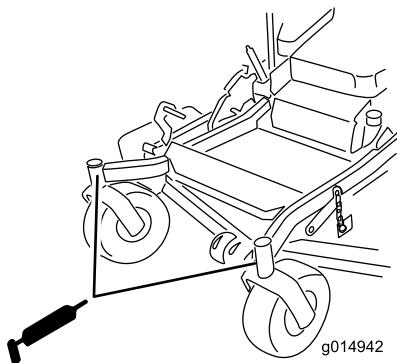

Figure 43
9. Remove the grease zerk in the hole. Install the hex plug and dust cap (Figure 43).